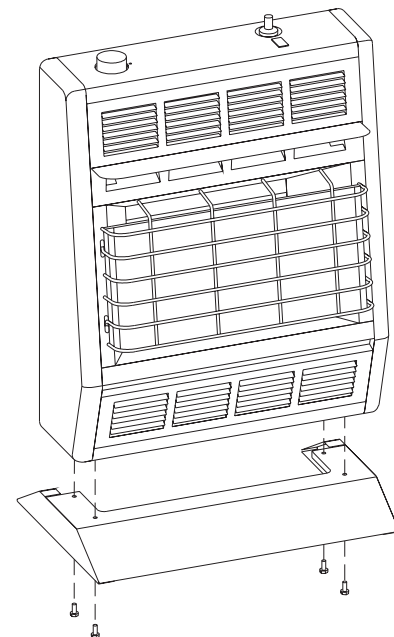

Figure 5
1. Align clearance holes on floor stand with screw holes on bottom of heater, as shown in Figure 5.
2. Attach floor stand to heater with (4) screws provided with floor stand.